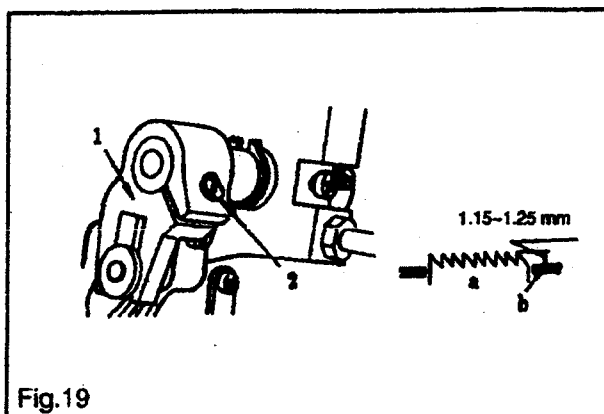

Fig.19
- 1) Loosen screws ② and ③ in feed eccentric cam ①. move the feed eccentric cam in the direction of the arrow or opposite direction of the arrow, and firmly tighten the screws.
13. HEIGHT OF THE FEED DOG(Fig.19)